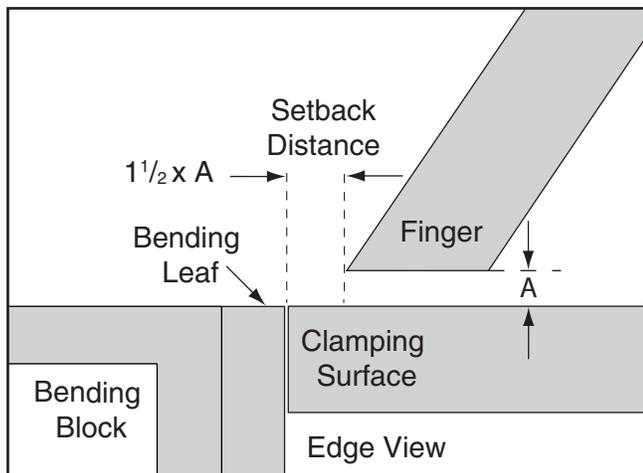

Figure 14. Determining setback distance for workpieces 22 gauge and thinner.
Setback is the distance from the forward edge of the fingers to the edge of the bending leaf, as shown in **Figure 14**. The setback distance is determined by the gauge of the workpiece material and the desired radius of the bend.
2. Raise clamping fingers about $\frac{1}{2}$ " off of clamping surface (see **Figure 14, A**).